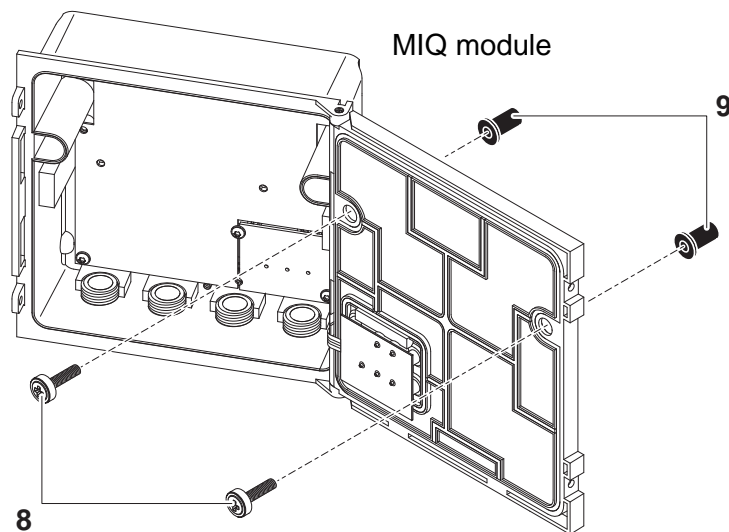

Fig. 3-8 Premounting the ISO blind nuts (variant 2)
- 6 Insert the cheese-head screws (pos. 8 in Fig. 3-8) with the plastic washers in the drilled mounting holes in the module lid and loosely screw in the ISO blind nuts (pos. 9).
- 7 Attach the prepared MIQ module to the back of the Universal Transmitter. At the same time, ensure that the two clips on the Universal Transmitter click into place in the lid of the MIQ module. Subsequently, tighten the two screws (pos. 8 in Fig. 3-8).